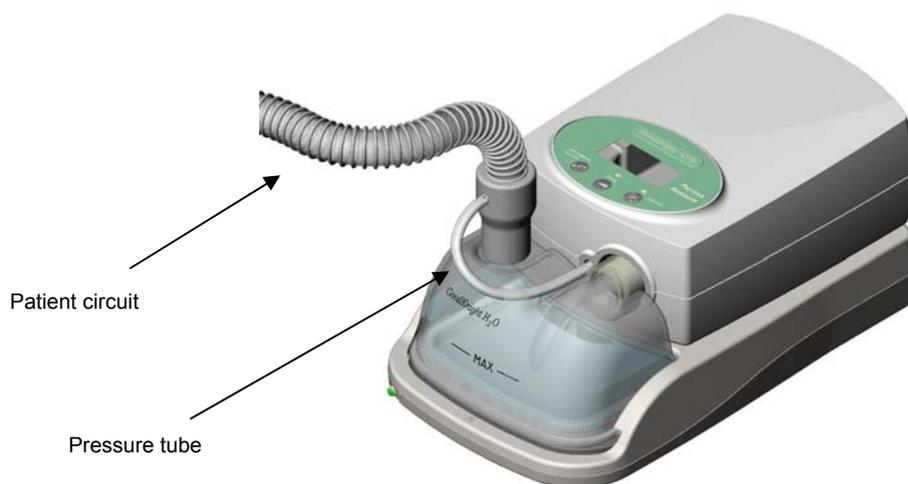

Figure 7 – Connection of the GoodKnight 425 to the GoodKnight H2O heated humidifier
5. Position the GoodKnight 425 device onto the GoodKnight H2O heated humidifier, as shown in Figure 7.